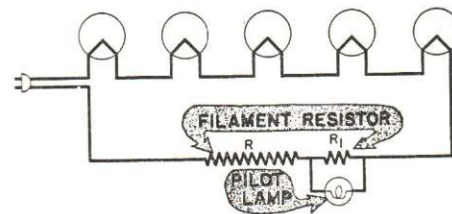

FIG. 9. The pilot lamp can be connected across a tapped section of the filament resistor.
► When a series filament resistor, ballast tube or line cord is used, a tap on the resistor element may provide a shunt resistance, as shown in Fig. 9. If desired, the section *R*₁ can be a separate resistor.
The pilot lamp shown in Fig. 8 will go through this same action, then become brighter again. As in Fig. 9, the first brilliant flare is caused by the extra current flow in the filament circuit. The pilot lamp dies down until it practically goes out as the filaments warm up. Then when the tubes draw plate current from the B power supply, the rectifier plate current flows through the pilot lamp and again lights it up.